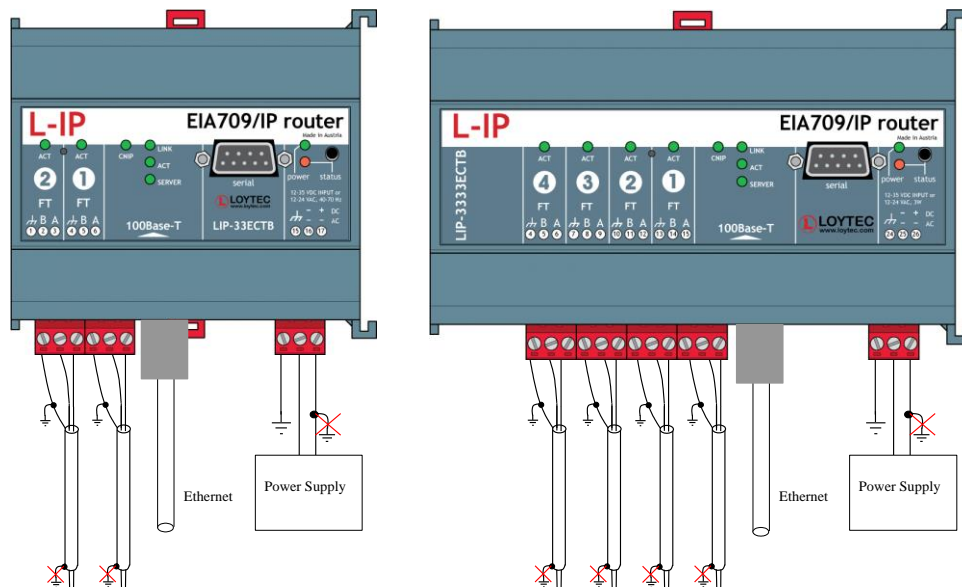

Figure 27: Connecting the Earth Ground to the L-IP series "B".
**Important:** *When using shielded network cables, only one side of the cable should be connected to earth ground. Thus, the shield must be connected to earth ground either at the L-IP terminals or somewhere else in the network (see Figure 27)!*